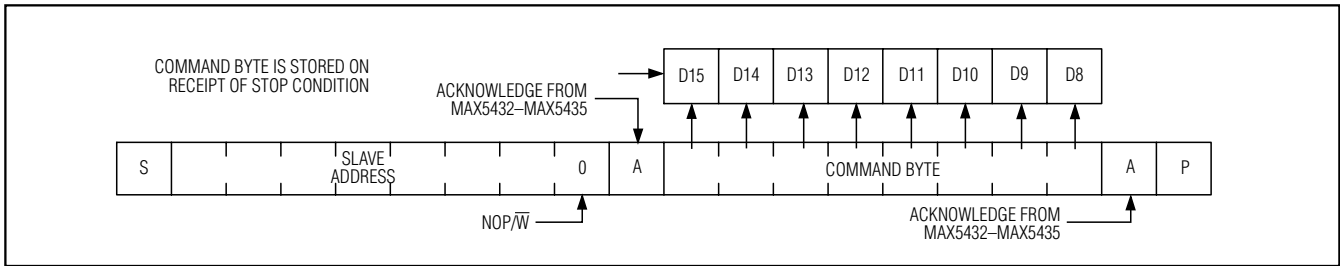

Figure 7. Command Byte Received
Each transmission consists of a START (S) condition (Figure 3) sent by a master, followed by the MAX5432–MAX5435 7-bit slave address plus the 8th bit (Figure 4), 1 command byte (Figure 7) and 1 data byte, and finally a STOP (P) condition (Figure 3).